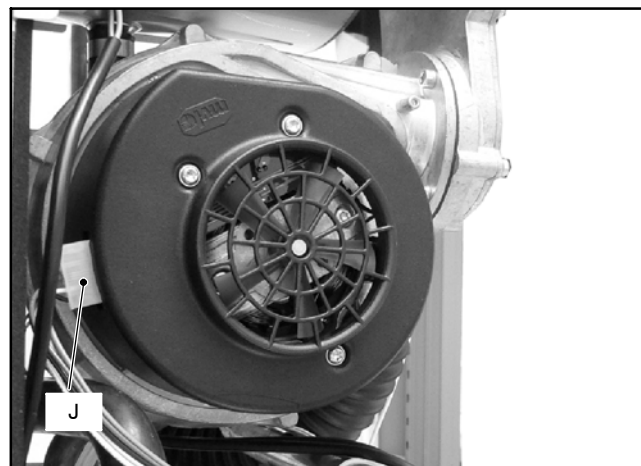

Fig. 17.4
- 8 Disconnect the fan connector *J* by pressing the plastic hook placed on the rear side of the connector (Fig. 17.4).